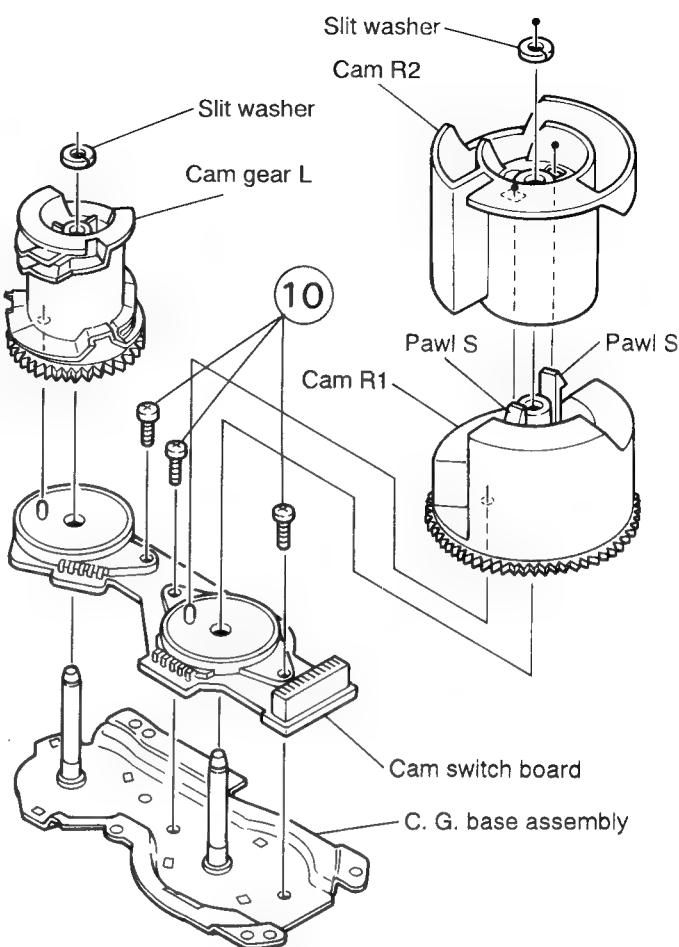

Fig. 5-37
■ Removing the cams R1/R2 assembly and cam gear L (See Fig. 5-37).
2. By removing the two pawls (S) fixing the cam R1, separate R2 from R1.
(See Figs. 5-37 and 5-38).